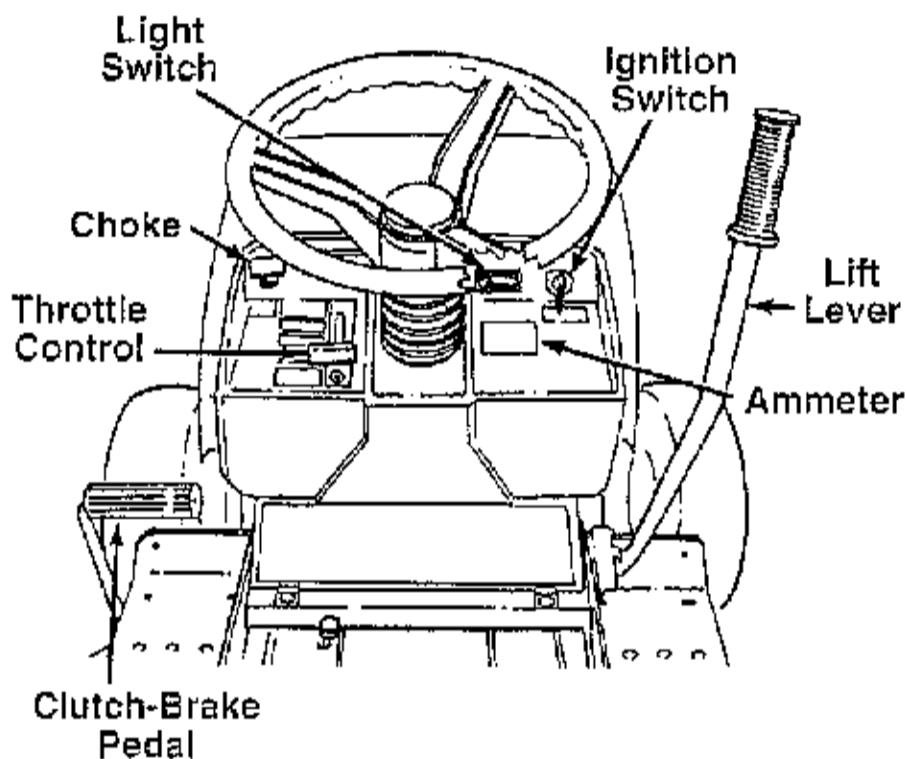

FIGURE 7.
The ignition switch is located on the dashboard. The engine is started by turning the key to the **START** position. After the engine starts, let the key return to the **ON** position. To stop the engine, turn the key to the left to the **OFF** position and remove it to prevent accidental starting. See figure 7.
The throttle control is located on the dashboard and is used to regulate the engine speed. See figure 7. To get maximum efficiency from cutting, the throttle should be in the **FAST** position when operating the mower. See figure 7.
The choke control is located on the dashboard and is operated manually. Details for the choke operation are covered in the separate engine manual packed with your unit. See figure 7.
The head lamps are operated by pushing the light switch located on the dashboard. The head lamps will only operate when the engine is running. See figure 7.
The ammeter registers the rate of battery charge or discharge. The ammeter will register on the discharging side with starting the engine. It should register on the opposite side (charging) when the engine is running in the fast position until the battery is completely charged. With a fully charged battery or with the engine idling, the ammeter will not show a charge. See figure 7.
The clutch-brake pedal is located on the left side of the tractor. See figure 7. Depressing the pedal returns the drive unit to neutral (N) and applies the brake.